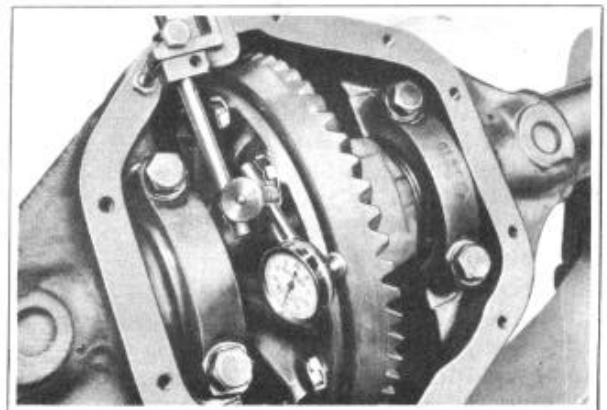

FIGURE 39
3. Before further disassembling, check drive gear for run out by placing a dial indicator against the back face of the gear as shown and slowly turn pinion, Figure 39. If the run out is greater than .003" check for the possibility of a sprung differential case, loose gear bolts and dirt or nicks between drive gear and flange.